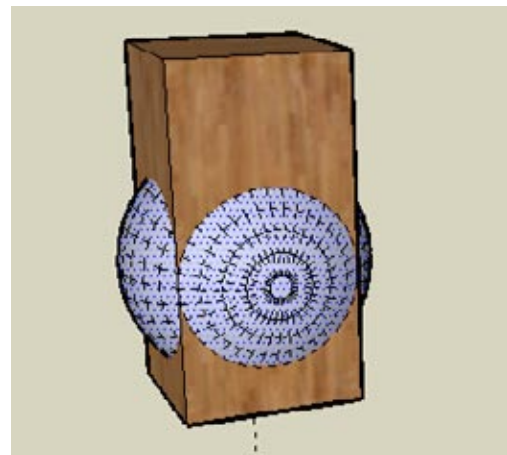

Figure 4-37
8. Leave the sphere selected. The next step is to move the sphere back down so that the rounding of the corners will start from the base of the box. In order to see how to move the sphere, choose View→Hidden Geometry from the main menu, which displays the dashed lines indicating hidden edges (Figure 4-37).